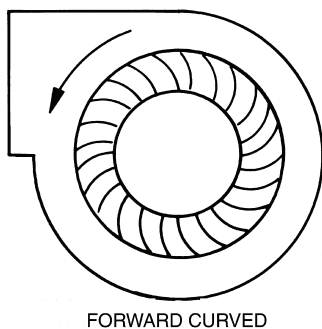

Fig. 36 — Fan Wheel Rotation
7. Check direction of rotation (see Fig. 36). Arrow on drive side of fan housing indicates correct direction of rotation.
install the coil with the downstream bottom of the coil attached to the upright mounting flange as shown in Fig. 36. Adjust the coil and then attach the top coil baffle to the top flange provided.